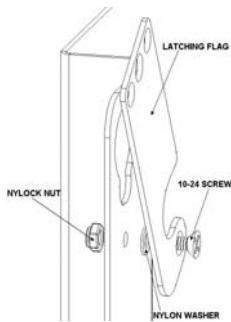

Figure 2
1. Using a 10-24 flat head cap screw inserted from chamfered hole side of each latching flag, install flags using Nylock nut (see Figure 2). Tighten nut until the flag will hold itself in place using friction.